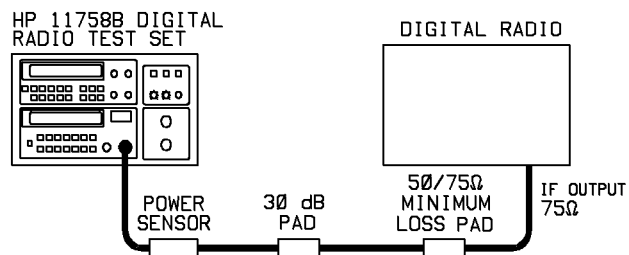

Figure 3-15. IF Output Power Setup
9. Connect the equipment as shown in Figure 3-15. Allowing for the losses across the pads and the attenuator, this setup would be used to measure the IF Output power from approximately -30 dBm to $+10$ dBm.